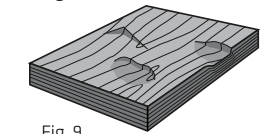

Fig. 9
**Dents, Gouges and Depressions** - Dents can indicate internal structural damage. Dropping the beam or impact from heavy objects on the beam will dent the beam. Remove the beam from service and visually inspect the beam before reuse. (Fig. 9)